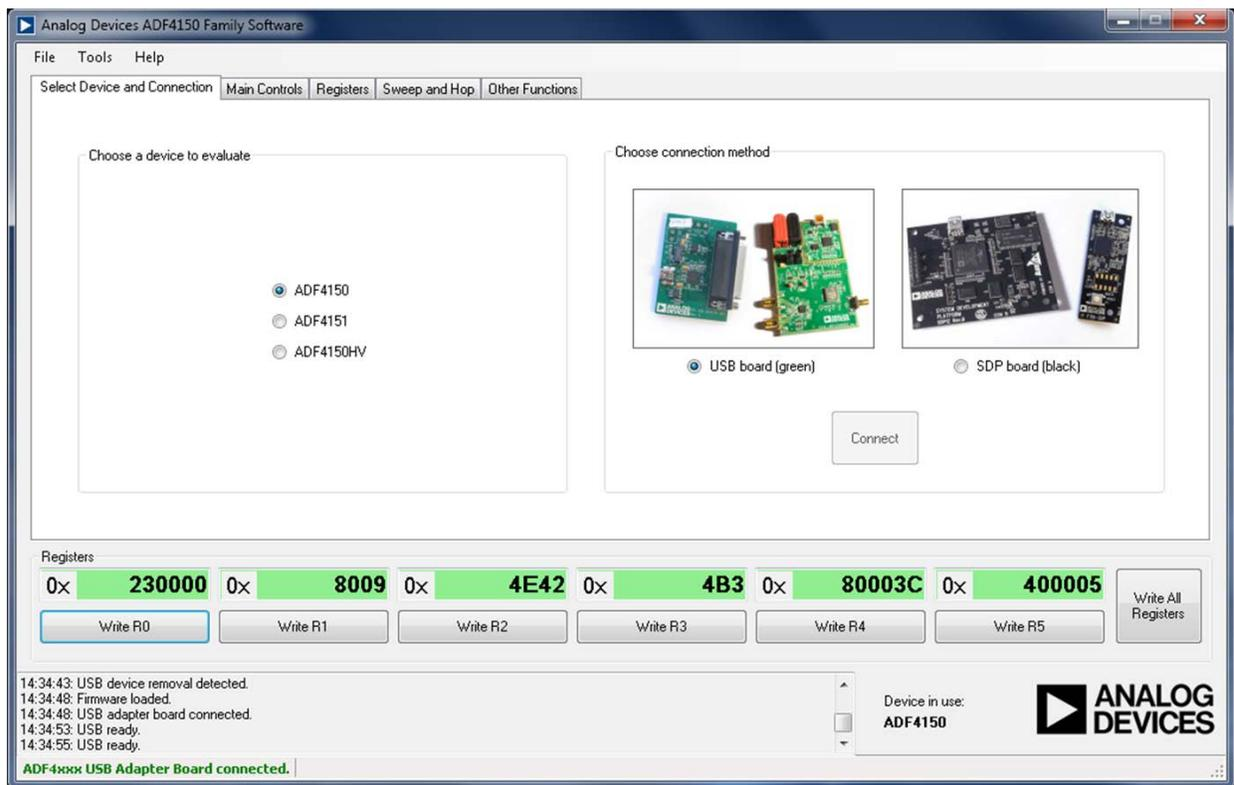

Figure 3. Software Front Panel Display—Select Device and Connection
Deleted Evaluation Board Setup Procedure Section, Deleted Figure 3 to Figure 16; Renumbered Sequentially
Added Figure 3; Renumbered Sequentially
2. On the **Select Device and Connection** tab, choose **ADF4150** and **USB board (green)**, and then click **Connect** (see Figure 3).
3. Confirm that **ADF4xxx USB Adapter Board connected** is displayed at the bottom left of the window (see Figure 3). Otherwise, the software has no connection to the evaluation board. Note that when connecting the board, it takes about 5 sec to 10 sec for the status label to change.